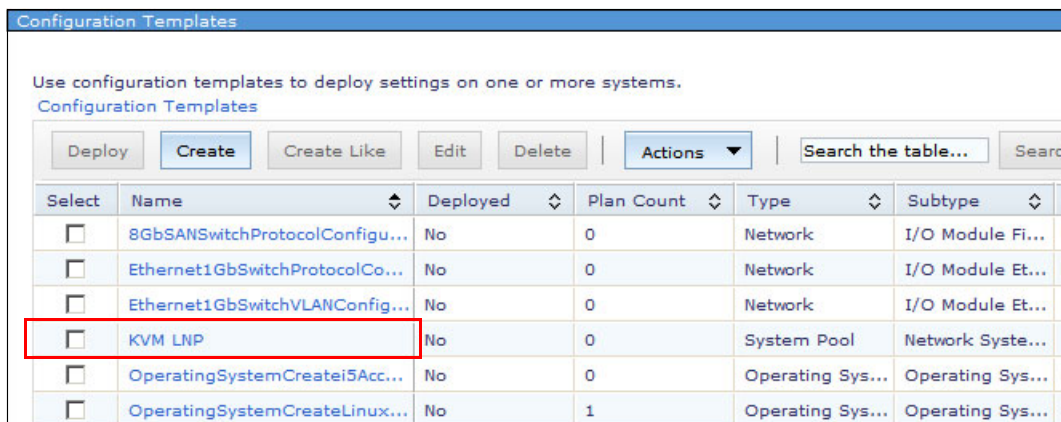

Figure 9-76 Configuration template created
12. The newly created template is shown in the Configuration Templates window, as shown in Figure 9-76.